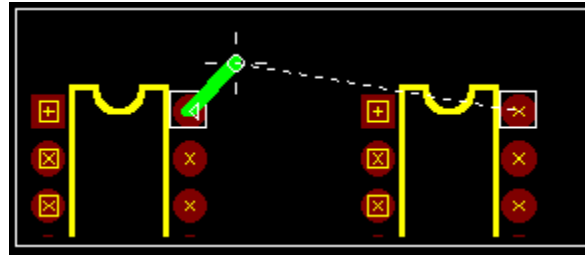

Fig.8.3
1. Right click and enable tool  **Route** to start routing connections. Select layer for routing from **Layers** in the main menu. 28 layers are available for routing. By default **COMP LAYER** is selected. Click on pin 14 of U2 to route on **SOLD LAYER**. A small triangle appears at this pin and cursor changes to a crosshair with a square. The next node in that net is displayed with ratsnest ending with a rectangle as shown in Fig.8.3.